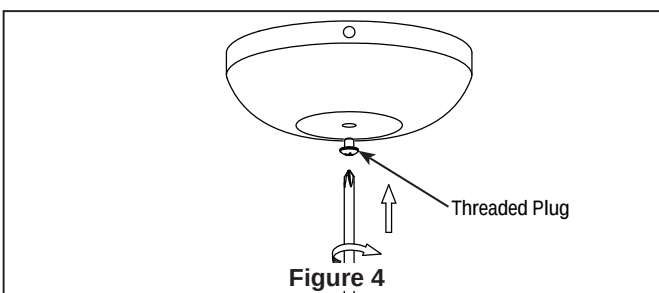

Figure 4
- ☐ 4. Install the threaded plug from part bag onto the switch cup. (Figure 4)
- ☐ **4. Remote Control Setting and Speed (RPM) Setting Process : (Figure 4)**